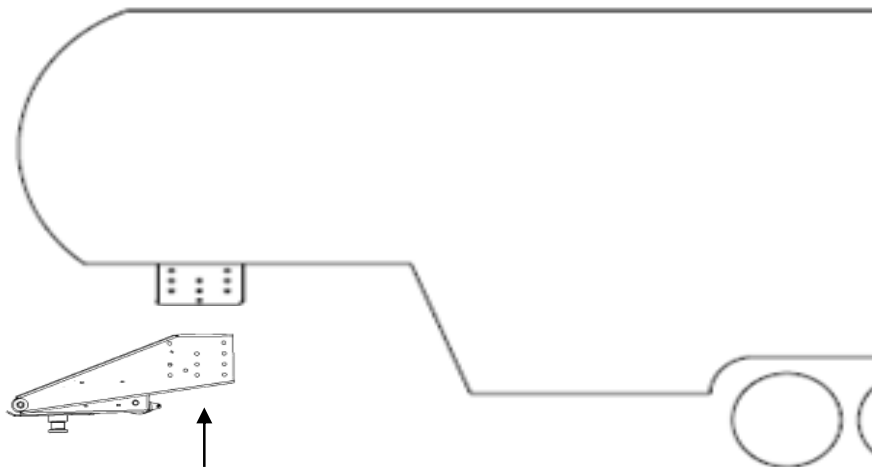

Figure 6
3. The Height of the hitch and pin box should be adjusted so the trailer is approximately level as it is towed. Allow approximately 6 in. clearance between the top of the bed and the underside of the front of the trailer for pitch and yaw of the trailer (See Figure 6). For off-road use allow more clearance between pickup walls and trailer.
3. Install the 5th Airborne inside the mounting wings (Figure 6), with exception to tube style pin boxes. Cequent Performance Products recommends replacing the mounting bolts, nuts, and lock washers with the same size & grade as the bolts removed from the original pin box. Torque all bolts to the proper value listed in table 1.